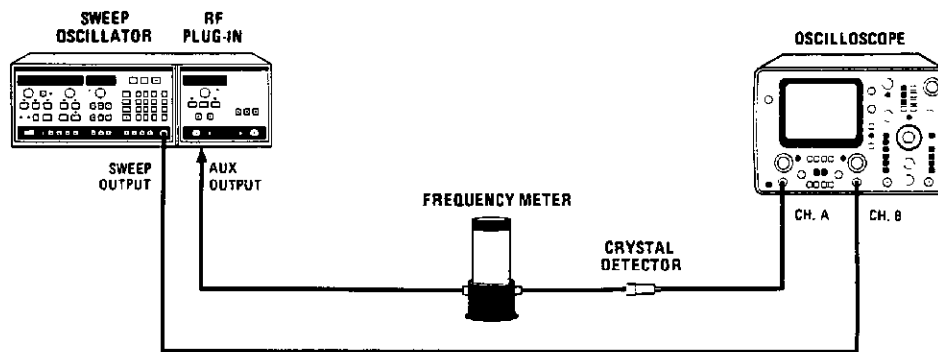

Figure 5-12. YO Retrace Compensation Test Setup
1. Connect the equipment as shown in Figure 5-12 with the Oscilloscope connected through the Detector and the HP 536A Frequency Meter to the Model 83592C rear-panel AUX OUTPUT. On the Model 8350A/B, press [INSTR PRESET], [RF BLANK]. Allow the equipment to warm up for one hour.